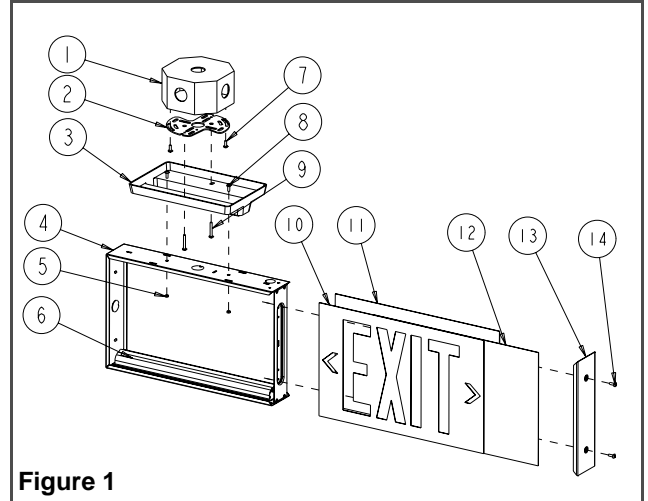

Figure 1
3. Remove exit face. To open the sign, remove screws from the end cap (see fig. 1) and slide out the exit face and the diffuser panel.